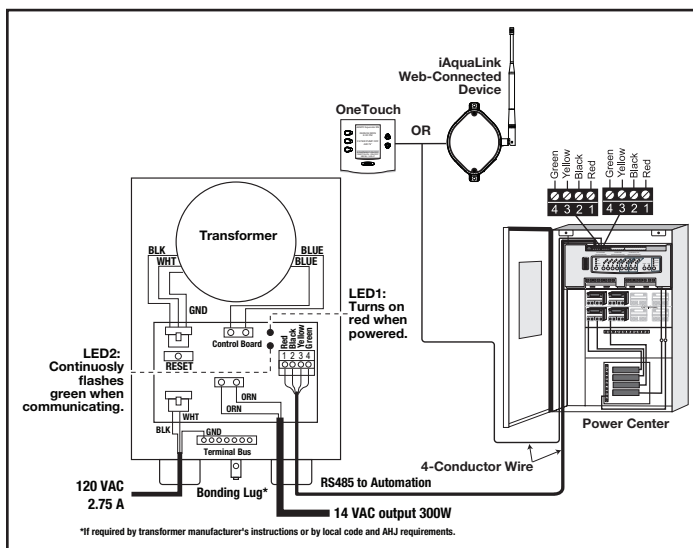

Figure 9. Wiring LED Lights to the Infinite WaterColors LED Light Controller
Refer to Figure 9 to connect the Jandy Infinite WaterColors Nicheless LED Lights and to the Infinite WaterColors LED Light Controller manual for connecting the Infinite WaterColors LED Light Controller to the AquaLink automation system.
3. Connect the low voltage wires black to orange and white to orange. See Figure 9.